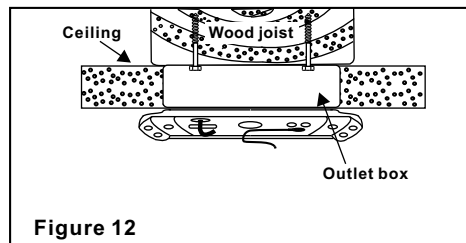

Figure 12
4. For additional security, install the wood screws with flat washers (not included) through outer slots in mounting plate and into wooden joist. **Note:** Leave one wood screw untightened to attach safety cable from motor (Figure 12).